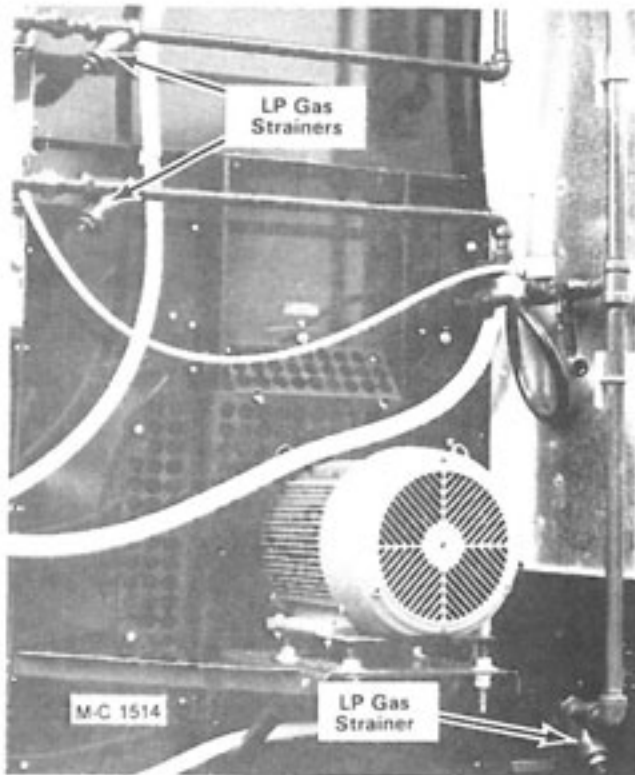

Figure 38
7. LP Gas - Remove the plug at the end of each strainer, see Figure 38. Remove and clean the screen in each strainer. Check flexible LP hoses for signs of fatigue, replace as necessary.